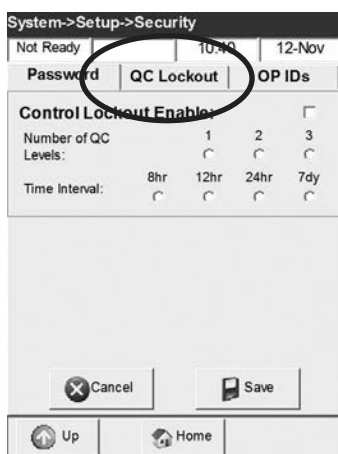

Fig. 3-25 Select QC Lockout
- Select **<QC Lockout>** in the **<Security>** menu (Fig. 3-25).